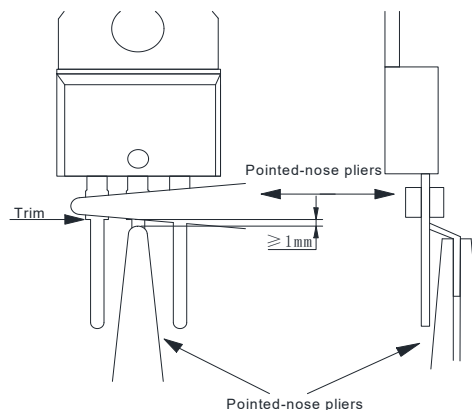

Fig. 2 Lead forming with pliers
- Special forming fixture and equipment with stress less than 9.8N shall be used. Alternatively, use two slender flat-nose pliers to do the lead forming. Use one pair of pliers to clamp the lead between the bend on the lead and the thyristor body, and then use another pair of pliers to clamp the remaining part of the lead for bending, as shown in Figure 2.